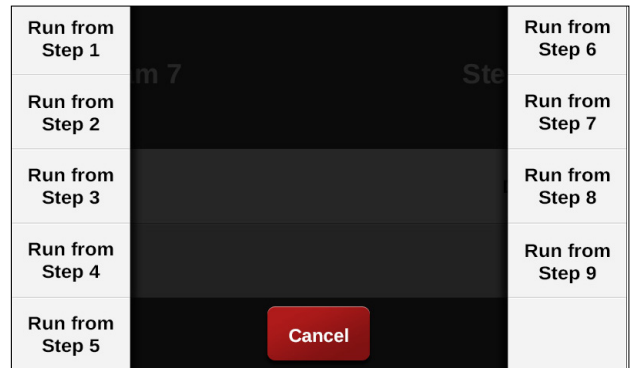

Figure 101-3 Run from Step Number Options
4. Choose the step number of the program where you want it to start. Refer to Figure 101-3.